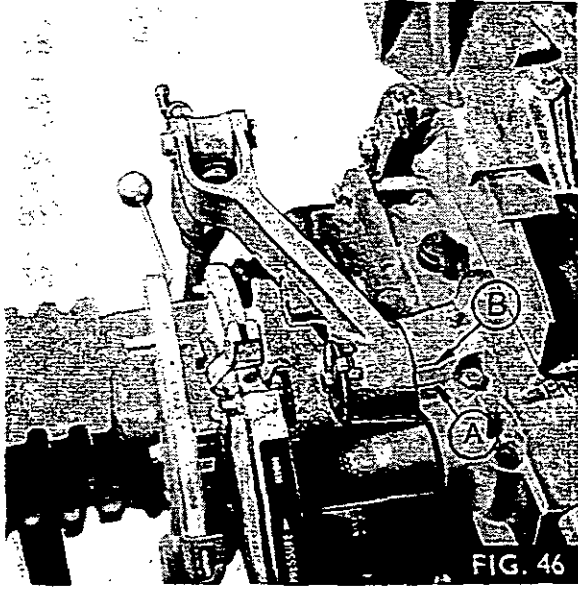

FIG. 46
6. Screw in the lower knurled adjustment screw (82) on the vertical lever (10) as shown, until the weighted lower links have risen fully and pressure control valve starts to blow off and a gauge reading of approximately 208 to 218 kg/cm2 (2950 to 3100 lb/in2) is obtained.
7. Fig 46. Scribe a line (A) on the lift cover and lift arm, to indicate the start of valve blow off.
8. Scribe two more lines (B) on the lift cover 3,2 mm ( 1/8 in) apart, and about 12,7 mm ( 1/2 in) back from the line (A) as shown.
9. Turn the lower adjustment screw (82) out until the time taken for the scribe line (A) on the lift arm to pass between the two scribe lines (B) on the lift cover is five seconds. (This is equivalent to a rate of drop of 25,4 mm (1 in) per five seconds at the ends of the lower links).
10. Fully raise the draft control lever and remove the wedge tool MF 270B (A).
2. Move the lever past the transport position to lower the weight, then return the lever to the transport position against the stop, the scribe lines (A) (Fig. 46) should be 1,6 to 3,2 mm ( $\frac{1}{16}$  to  $\frac{1}{8}$  in) apart.
3. Check that the lift arms continue to support the weight, and that after three minutes the lift arms do not fall more than 8 mm ( $\frac{3}{16}$  in), measured between the scribe times (A Fig 46) using recommended oil at 38°C (100°F) minimum.